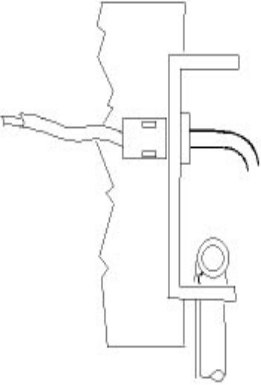

FIG. 14 - PROPER FLAME ADJUSTMENT
1. **Limit Control (LS).** This control is located inside the heat exchanger compartment and is set to open at the temperature indicated in Table 12. It resets automatically. The limit switch operates when a high temperature condition, caused by inadequate supply air flow occurs, thus shutting down the ignition control and closing the main gas valves and energizing the blower.
2. **Centrifugal Switch (CS).** If the draft motor should fail, the centrifugal switch attached to the shaft of the motor prevents the ignition controls and gas valves from being energized.
4. **Flame Sensor Rod / 100% Ignition Control Lock-Out.** The flame rods and controls are located per Figure 14. If an ignition control fails to detect a signal from the flame sensor indicating the pilot flame is properly ignited, then the main gas valve will not open. It will continue to try and ignite the pilot for a maximum of 85 seconds, then if the pilot flame is not detected, the ignition control will lock out furnace operation until 24V power is removed from the module either at the unit or by resetting the room thermostat.
The pilot flame should envelope the end of the flame sensor. Refer to Figure 14. To adjust pilot flame, (1) remove pilot adjustment cover screw, (2) increase or decrease the clearance for air to the desired level, (3) be sure to replace cover screw after adjustment to prevent possible gas leakage.
Adjust burner shutters so no yellow flame is observed in the heat exchanger tubes. Refer to Figure 14.